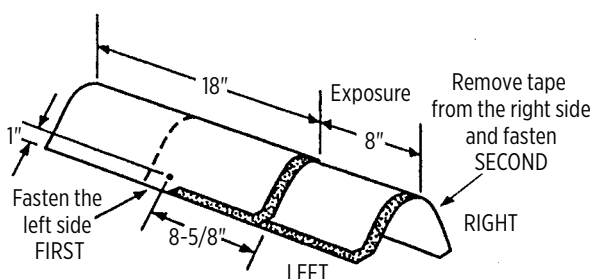

Figure 17-19: Installation of Shingle Ridge shingles on hips and ridges.
7. Fasten each cap with two fasteners (Figure 17-19). The fasteners must be  $1\frac{3}{4}$ " long, or longer, so they penetrate either  $\frac{3}{4}$ " into the deck or completely through the deck, exposing at least  $\frac{1}{8}$ " of the tip of the nail. Expose 8" of the Accessory along the ridge or hip line and cover all fasteners.